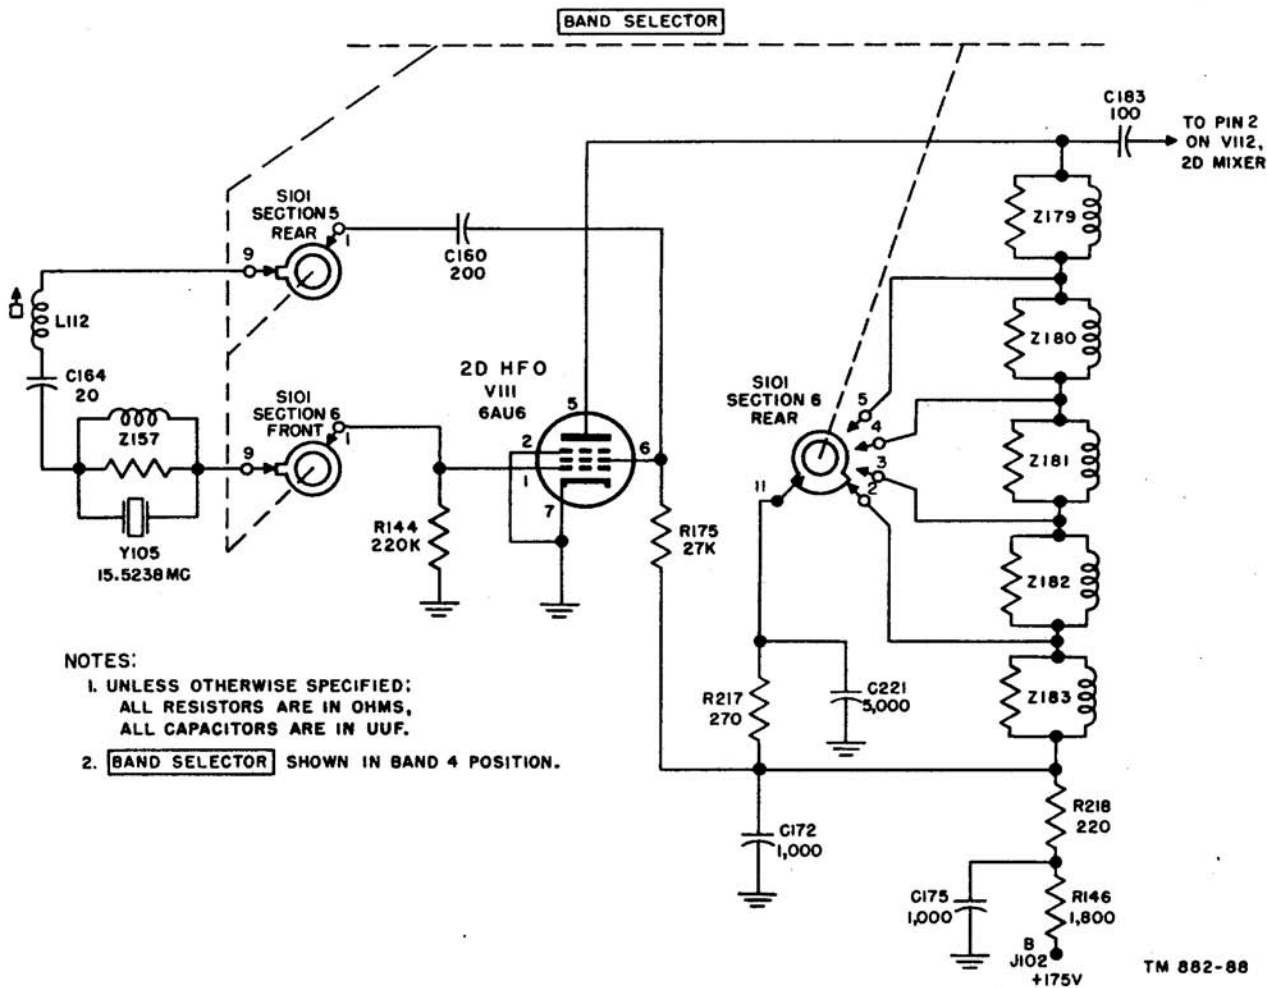

Figure 32. Crystal oscillator on band 4, simplified schematic diagram.
- (2) Bands 4, 5, 6, and 7 (fig. 32). On bands 4, 5, 6, and 7, the circuit differs considerably from that used on bands 1, 2, and 3.